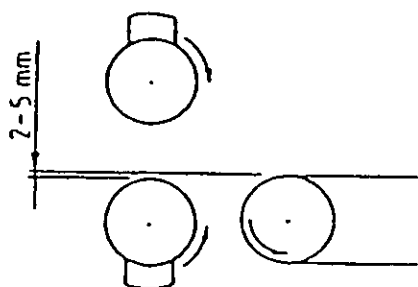

Fig. 16
- Vertical adjustment of the infeed belt at the cross sealing. See Fig 16: